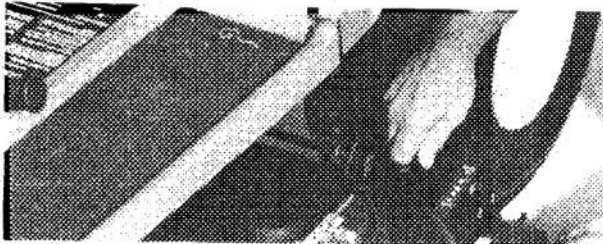

Figure 17
3. Move height-of-cut control on tractor (Fig. 17) into desired setting for high or low cutting.